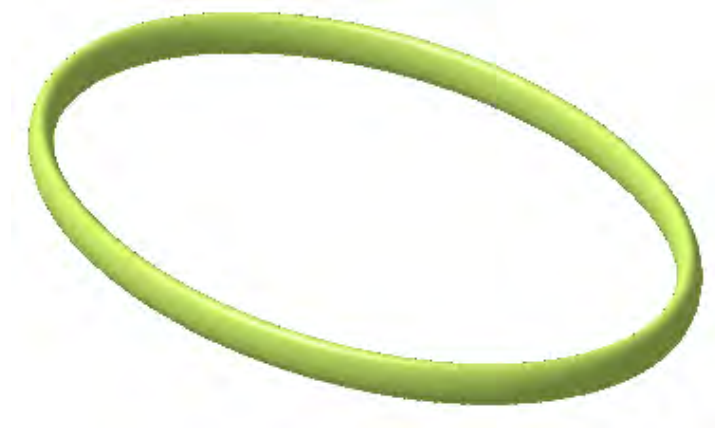

Figure 9-60 The resulting swept surface
4. Select the guide curve from the geometry area and choose the **OK** button. The resulting swept surface, after hiding the sketches is displayed, as shown in Figure 9-60.